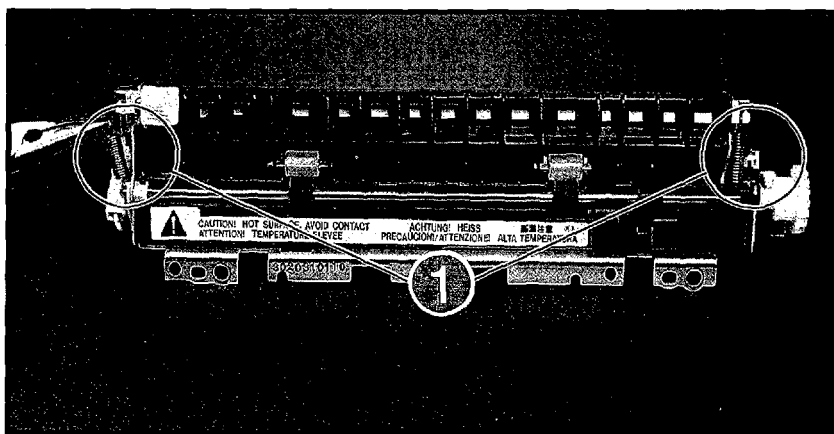

Figure 6-28 Removing the Fusing Pressure Plate
1. Remove the spring from each end of the Pressure Plate (Figure 6-28, callout 1).